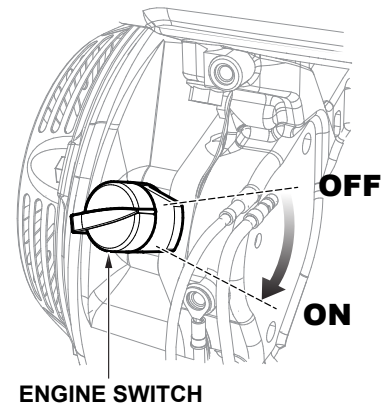

Figure 12. Engine ON/OFF Switch (ON)
6. Place the engine **ON/OFF** switch (Figure 12) in the **ON** position.